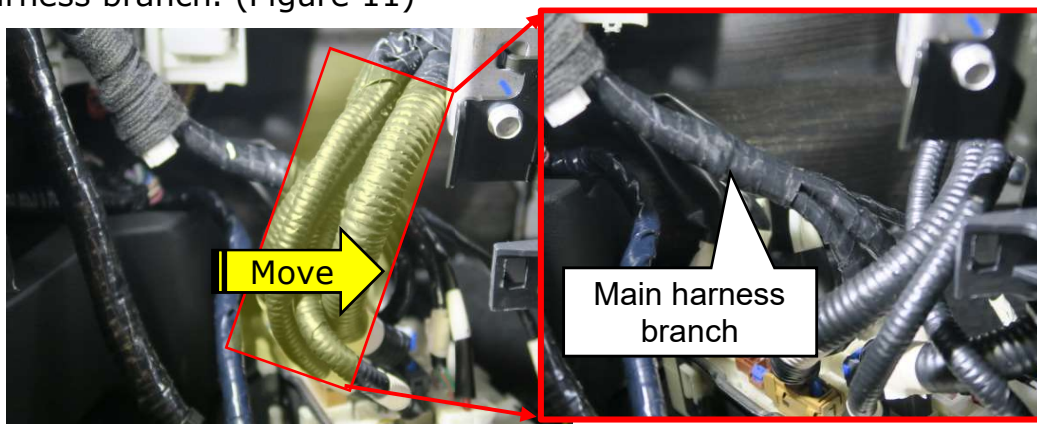

Figure 11
10. Position the harness branches behind the knee airbag to allow access to the main harness branch. (Figure 11)